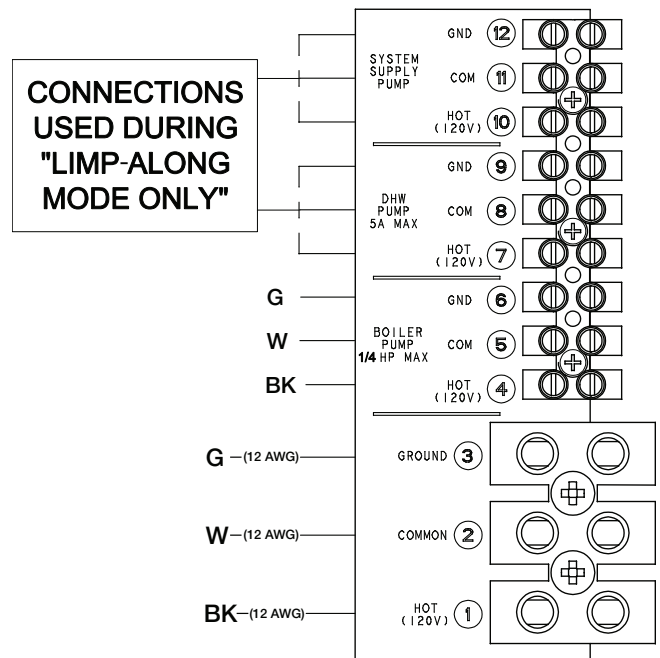

Fig. 25: VERSA Follower
1. Once the primary boiler has been identified, additional boilers will be designated as follower boilers. Ensure DIP switch 2 on each follower VERSA is set to the OFF/Down position (See Fig. 25)